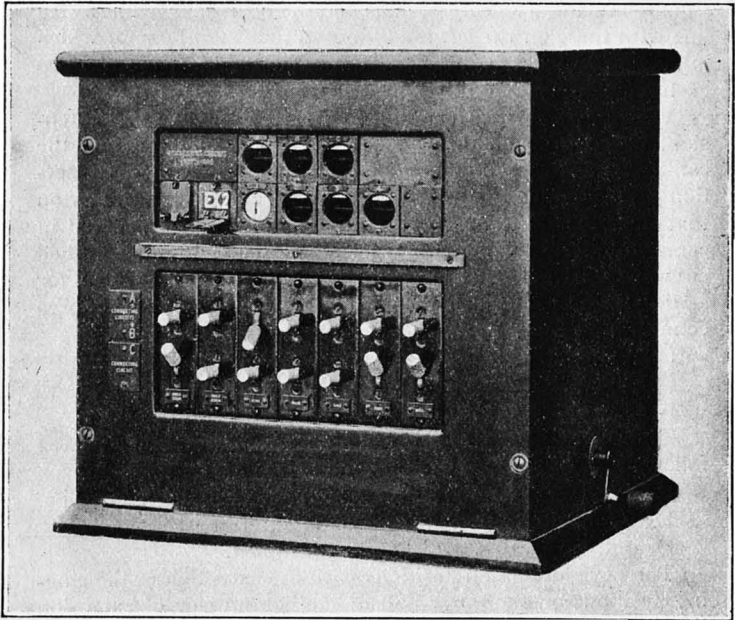

Fig. 1.
Each switchboard consists of a rectangular wood box cut away where necessary to allow keys and indicators to be fitted and connections to be made. The front of the board is hinged, and opens outwards to enable the apparatus and wiring to be inspected. The outside is polished and suitably finished. A general view of a  $\frac{2+4}{6}$  board is shown in Fig. 1. A C.B. table pattern instrument is provided for the operator's use.
**Night Facilities.**—An extension requiring night service is connected through a special break jack at the point marked with crosses in Loose Leaf Diagram N. 934, Fig. 1. The insertion of an exchange plug into this jack cuts out all the normal equipment associated with the extension line and connects the plug directly to the outgoing extension line. The extension line is thereby converted into a direct exchange line for the time being. The exchange line indicator at the P.B.X. is still in bridge, but this does not matter.
Reference to Fig. 1, N. 932, will make clear the method of signalling from the extension.